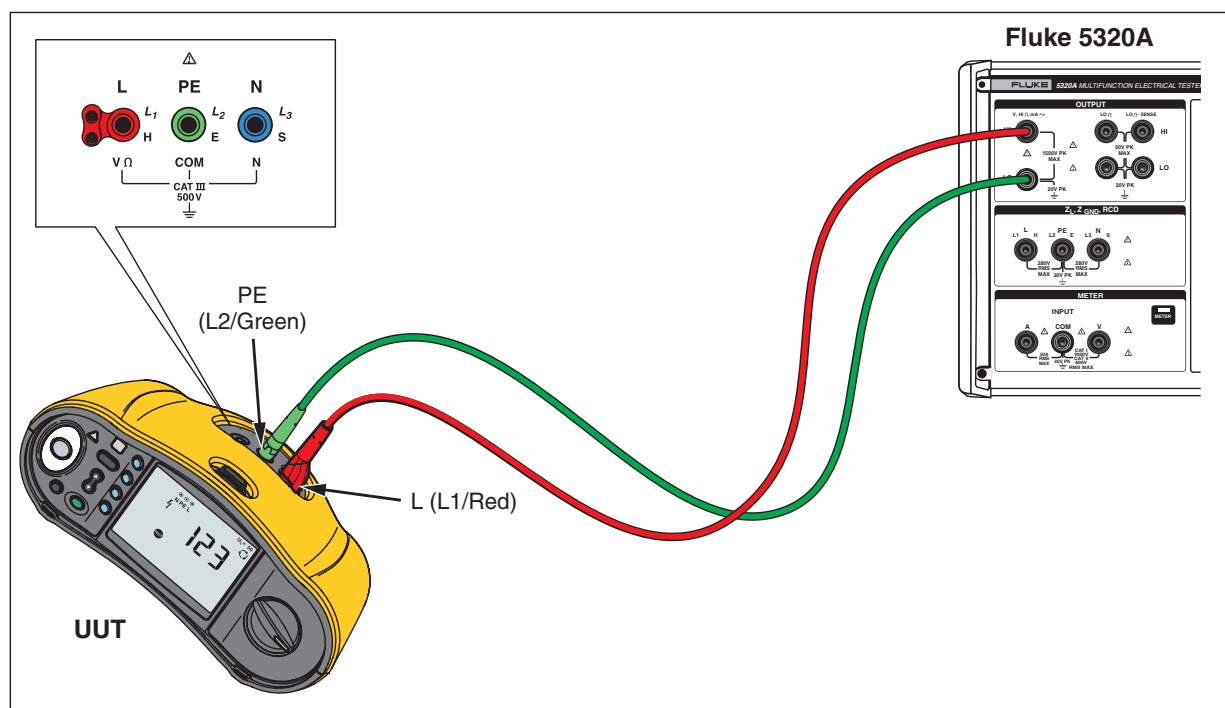

Figure 4. Volts and Insulation Accuracy Tests
- Connect the PE and L input jacks of the Tester to the Calibrator V, HI Ω , mA \sim Output terminals as shown in Figure 4.
3. Connect the L and PE input jacks on the Tester to the Calibrator V, HI Ω , mA~ Output terminals as shown in Figure 4.